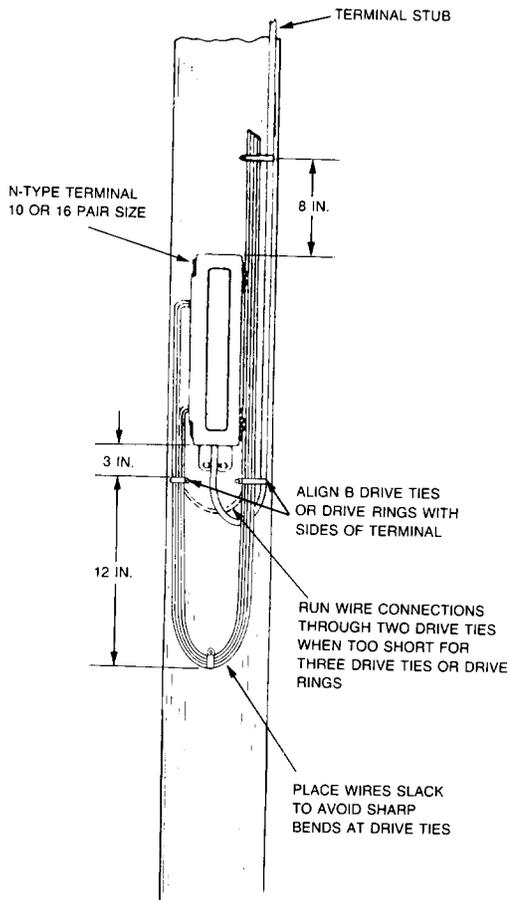

Fig. 13 - Running Drop Wire to 10 or 16 Pair N-Type Cable Terminal Mounted on Pole
4.06 Refer to Fig. 13 and 14 for typical arrangements of drop wires at N-type
- 4.06 Refer to Fig. 13 and 14 for typical arrangements of drop wires at N-type terminals which are mounted on poles.